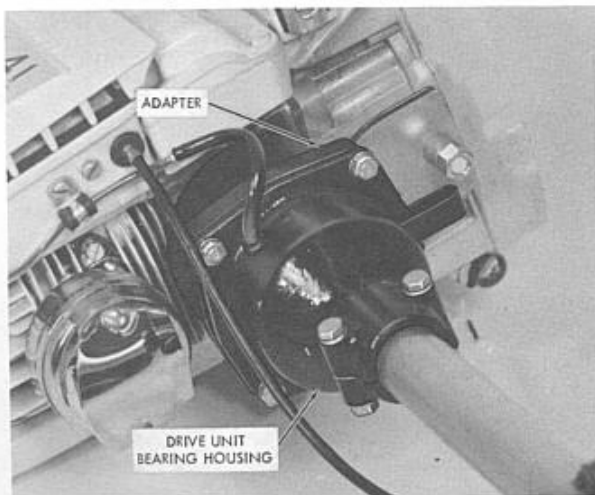

Figure 8. Mounting Drive Unit
6. Mount the Drive Unit on the Adapter with four 1/4-20 x 1-inch screws (P/N 101982), four lock washers (P/N 100153), and four 1/4-inch plain washers (P/N 100004) as shown in Figure 8. The lockwashers go between the head of the screw and the plain washer.